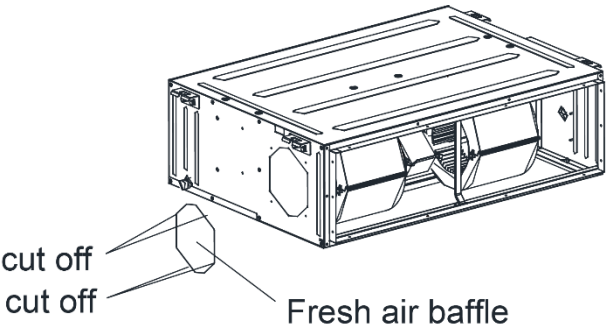

Fig 9.4.8
- (1)When the fresh air pipe is needed to be connected, cut the fresh air baffle as Fig 9.4.8 Plug up the gap of the fresh air baffle by sponge if the fresh air duct is not be used.